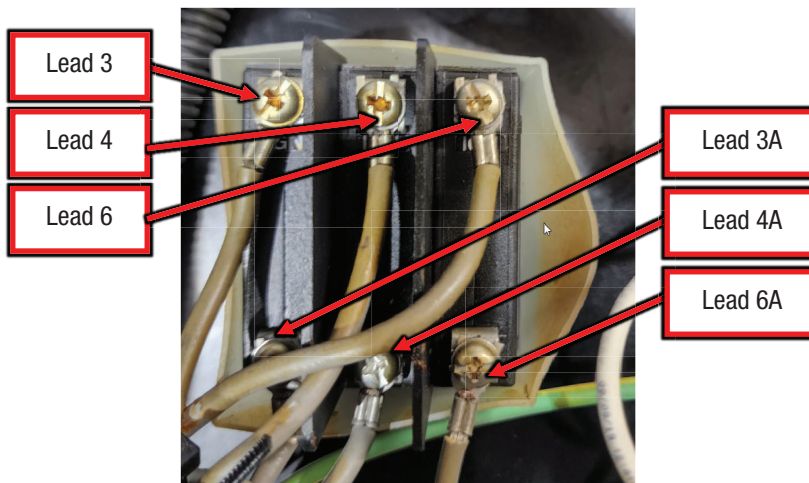

Figure F.2
A.2. Label and disconnect the following connections on CB1, refer to Figure F.2.